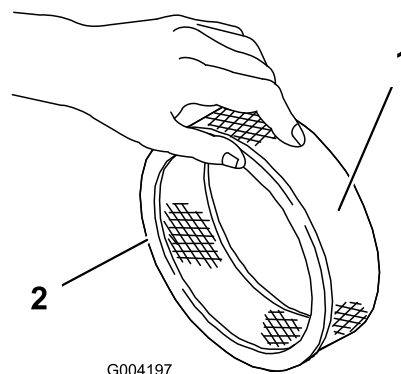

Figure 43
5. Inspect the paper filter for tears, an oily film, and damage to the rubber seal (Figure 43).
1. Carefully slide the foam pre-filter onto the paper filter (Figure 43).